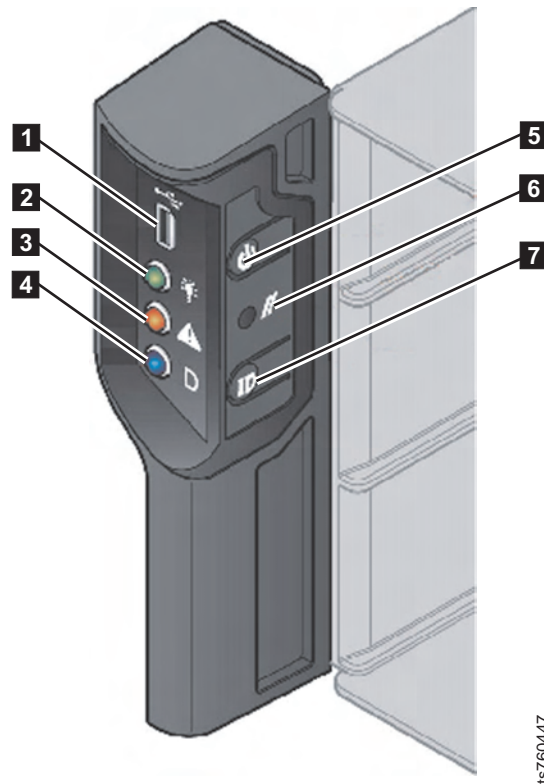

Figure 51. On/Off button
- a. Locate the server's **On/Off** button ( **5** ) on the side of the server operator panel. See Figure 51 on page 73.